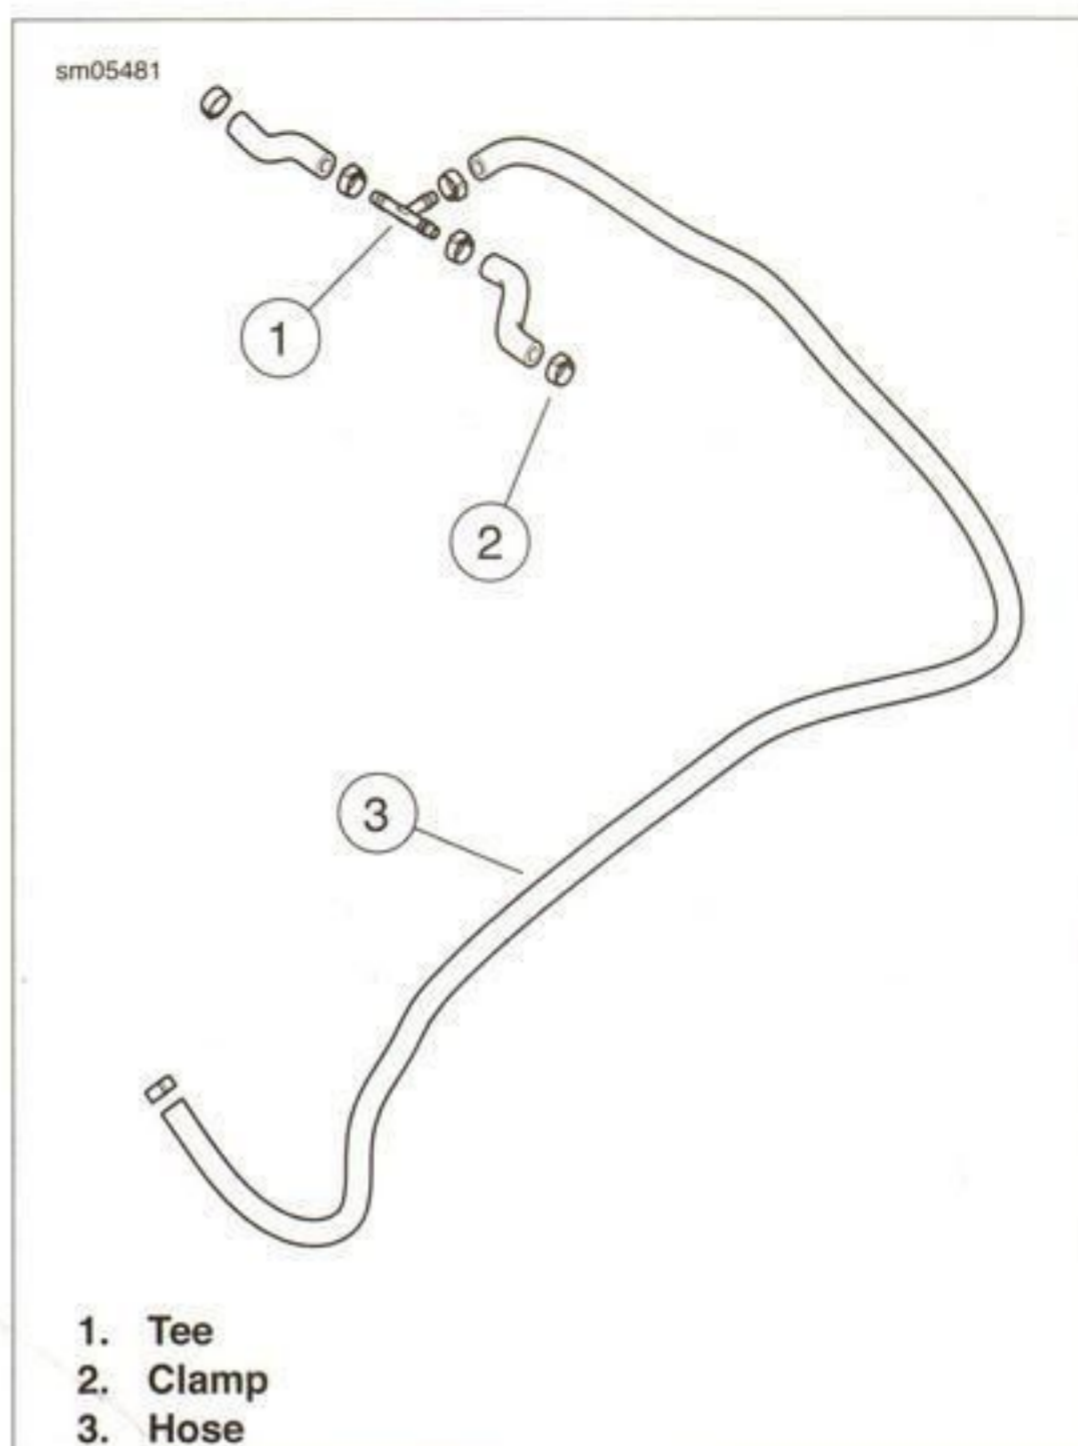
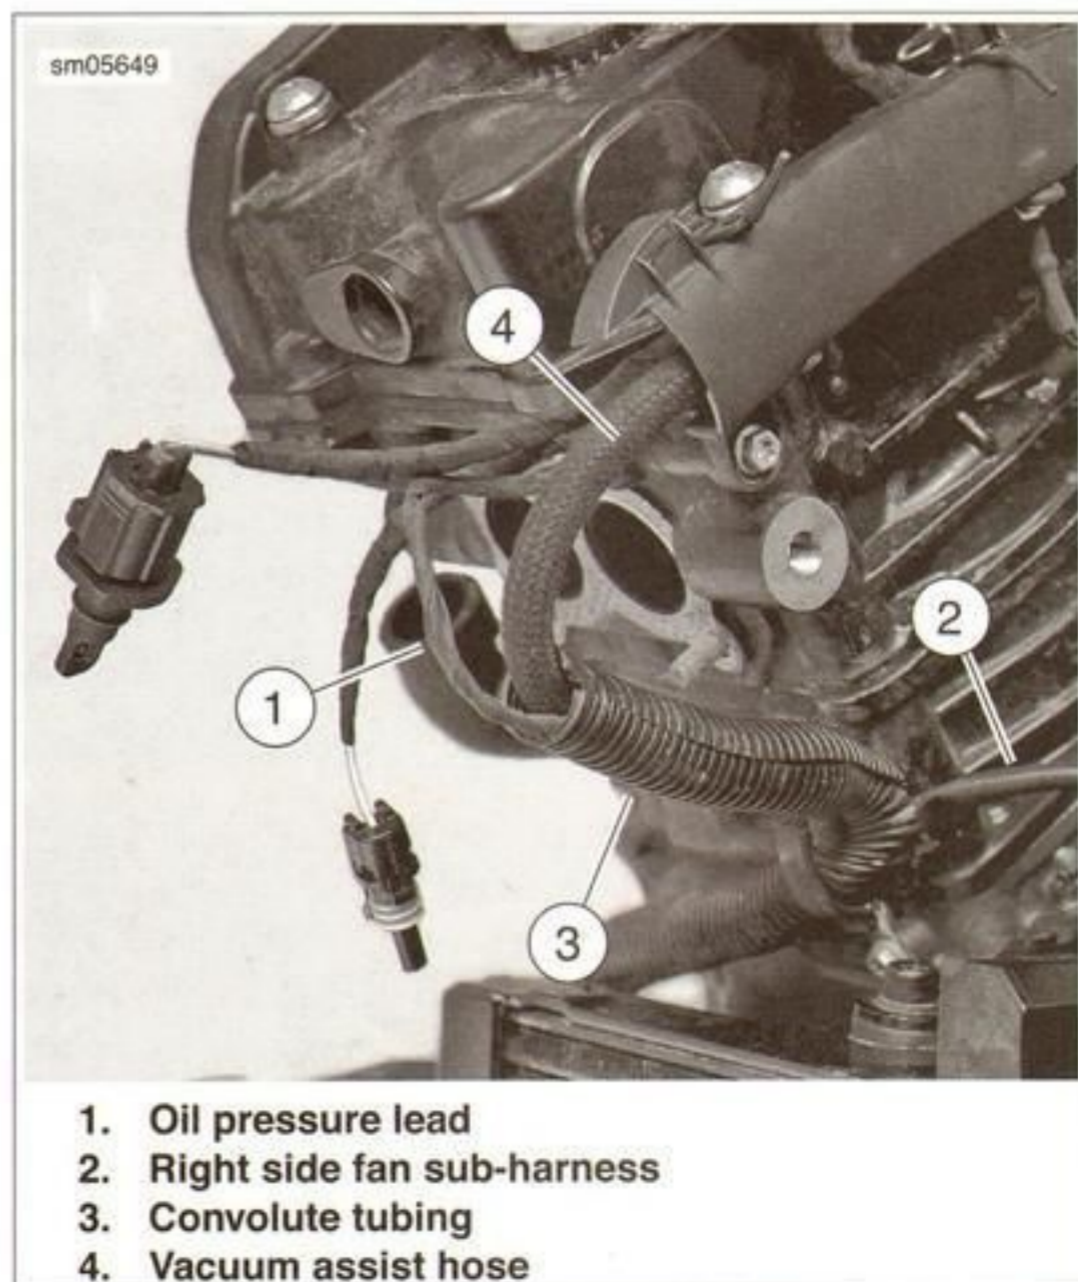

Figure 6-27. Vacuum Assist Hose
Figure 6-28. Vacuum Assist Hose
2. See Figure 6-27. Clamp (2) the short hoses to a T-connector (1).
3. Clamp a long hose (3) on the T-connector.
5. See Figure 6-28. Along with the oil pressure switch lead (1) and the right cooling fan sub-harness (2), route the hose through the large convolute tubing (3) and secure with cable straps.